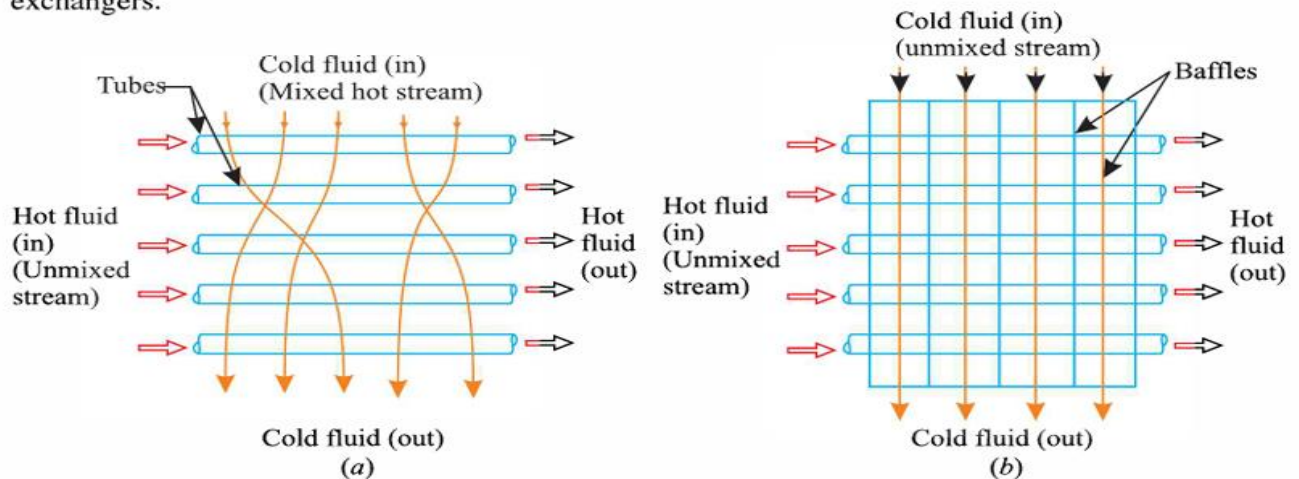

Fig. 10.4. Cross-flow heat exchangers
In cross-flow heat exchangers, the *two fluids (hot and cold) cross one another in space, usually at right angles*. Fig. 10.4 shows a schematic diagram of common arrangements of cross-flow heat exchangers.
- Refer Fig. 10.4 (a) : *Hot fluid* flows in the the separate tubes and there is no mixing of the fluid streams. The *cold fluid* is perfectly mixed as it flows through the exchanger. The temperature of this mixed fluid will be uniform across any section and will vary only in the direction of flow.
- Refer Fig. 10.4 (b) : In this case each of the fluids follows a prescribed path and is unmixed as it flows through heat exchanger. Hence the temperature of the fluid leaving the heater section is not uniform.